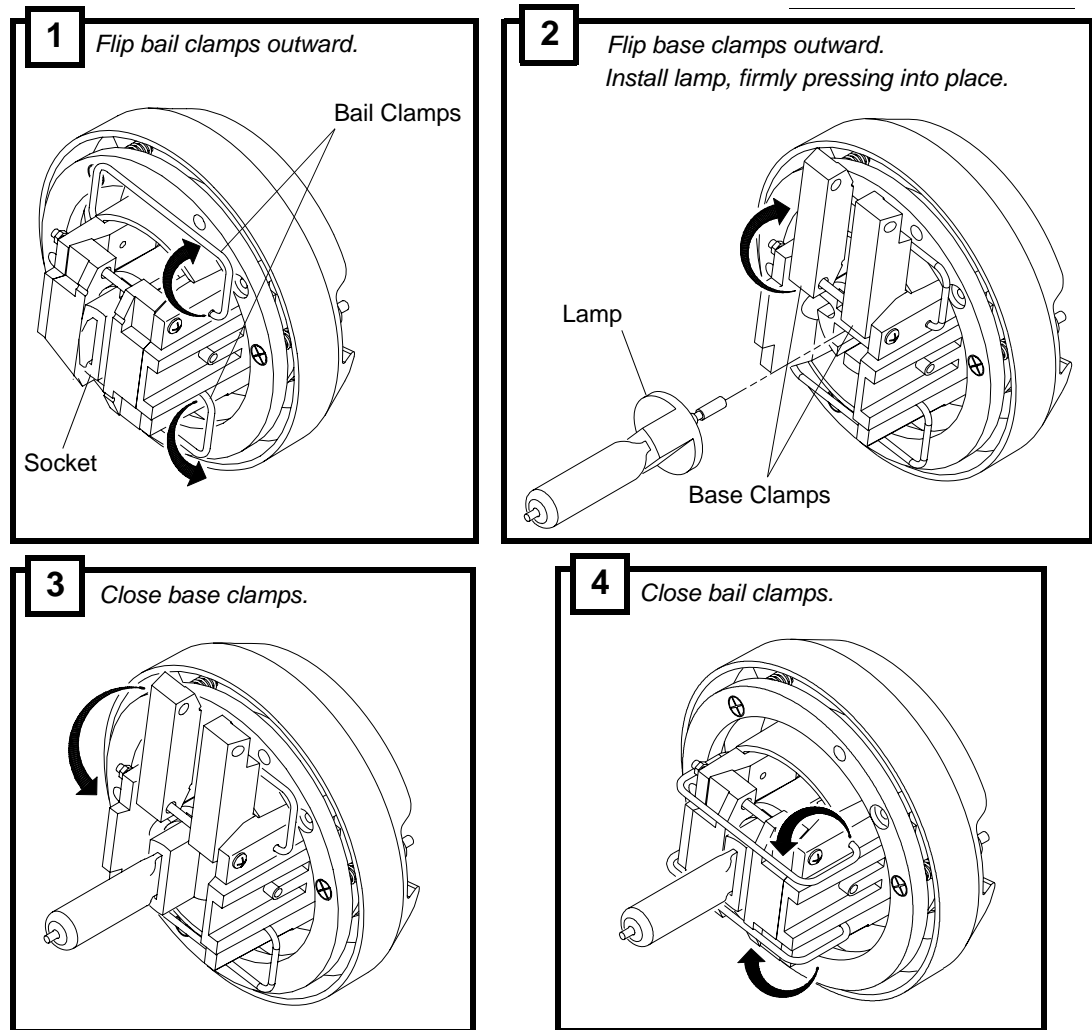

Figure 2-2: Installing Incandescent Lamp in Socket
- Step 4. At backcap, flip two bail clamps outward (**Figure 2-2**).